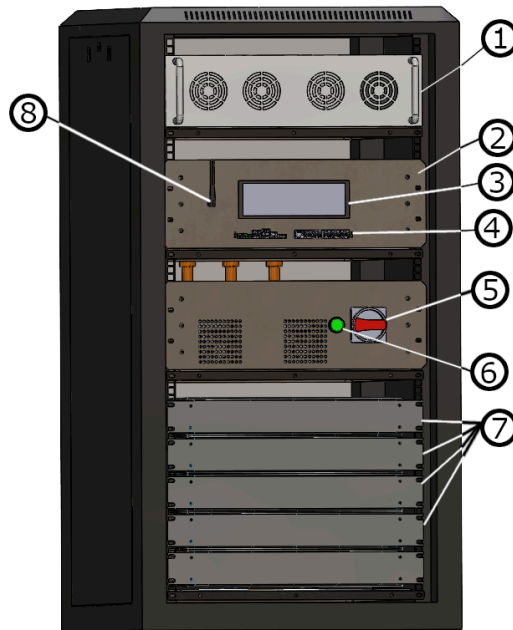

Figure 2
9. Power on the Shock Dyno by turning the power switch (Figure 2) clock-wise, which is behind the front door of the power supply, to configure the software.